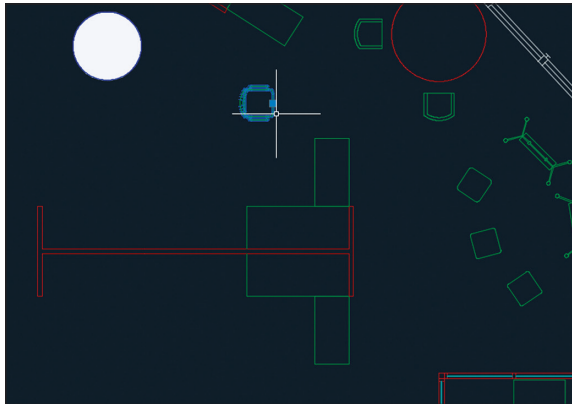

FIGURE 4.10 Moving a selected object by dragging
2. Click the chair that is not in front of a desk to select it. Position the cursor over the selected chair but not over its grip. Drag the chair while holding down the left mouse button to move it closer to the upper desk; see Figure 4.10.